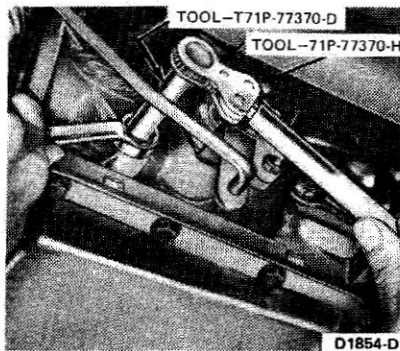

FIG. 5 Adjusting Intermediate Band
2. Install a new locknut on the adjusting screw. With the tool shown in Fig. 5, tighten the adjusting screw until the tool handle clicks. The tool is a pre-set torque wrench which clicks and breaks when the torque on the adjusting screw reaches 10 ft-lb.